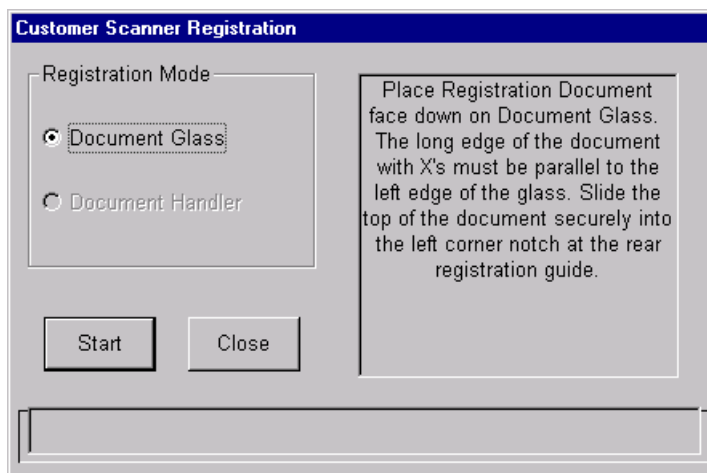

Figure 4-3. Customer Scanner Registration dialog box
3. Select [Tools: Scanner Registration] from the Scanner Support menu bar. The Customer Scanner Registration dialog box opens. See Figure 4-3.